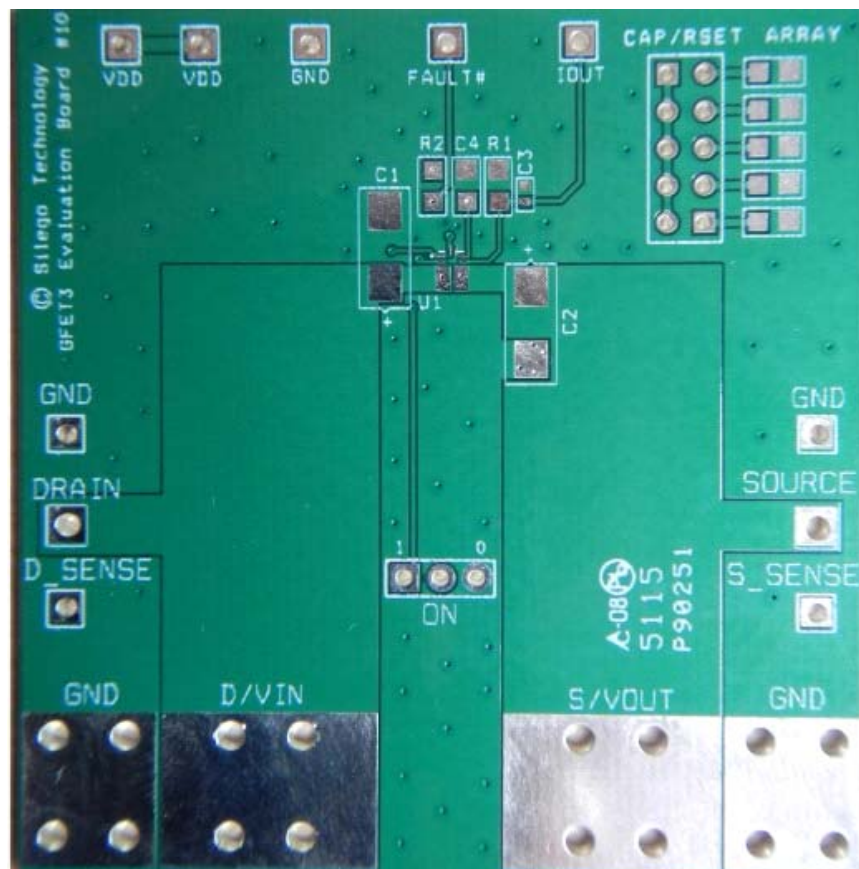

Figure 13. SLG5NT1757V Evaluation Board
2. Since the VIN and VOUT pins dissipate most of the heat generated during high-load current operation, it is highly recommended to make power traces as short, direct, and wide as possible. A good practice is to make power traces with an absolute minimum widths of 15 mils (0.381 mm) per Ampere. A representative layout, shown in Figure 13, illustrates proper techniques for heat to transfer as efficiently as possible out of the device;
A GFET3 Evaluation Board for SLG5NT1757V is designed according to the statements above and is illustrated on Figure 13. Please note that evaluation board has D\_Sense and S\_Sense pads. They cannot carry high currents and dedicated only for  $R_{DS(ON)}$  evaluation.